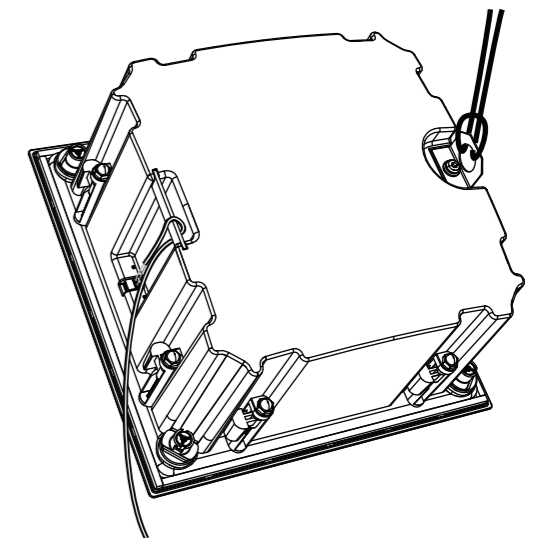

Fig. 16. Connecting the secondary safety to the back can
1. With the back can wired correctly as shown above, connect a secondary safety cable to the metal mounting loop on the rear of the back can. The other end of the secondary safety cable should be secured to suitable strong mounting point in the ceiling (Fig.16).